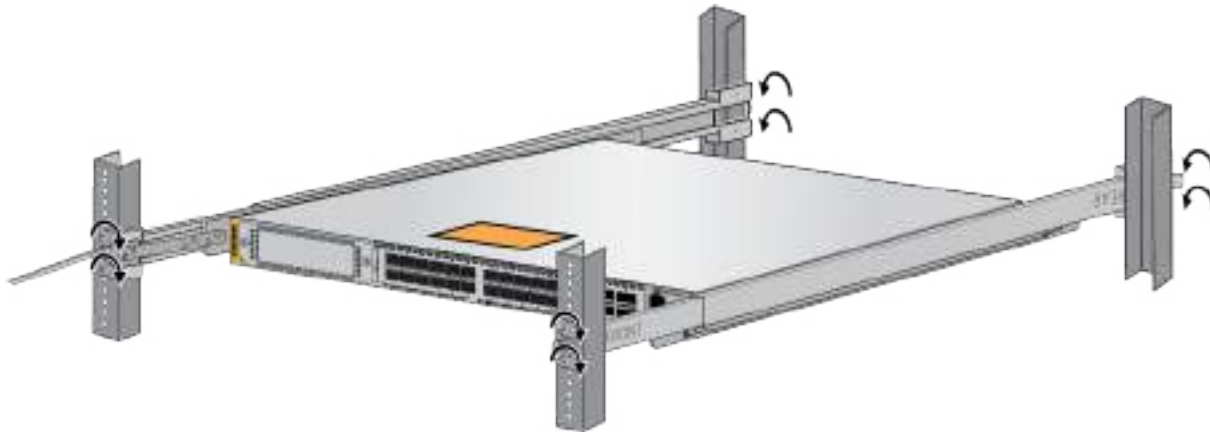

Figure 101. Tightening the Screws on the Outer Rails
5. Finish tightening the eight screws on the outer rails to secure the rails to the equipment rack. See Figure 101.